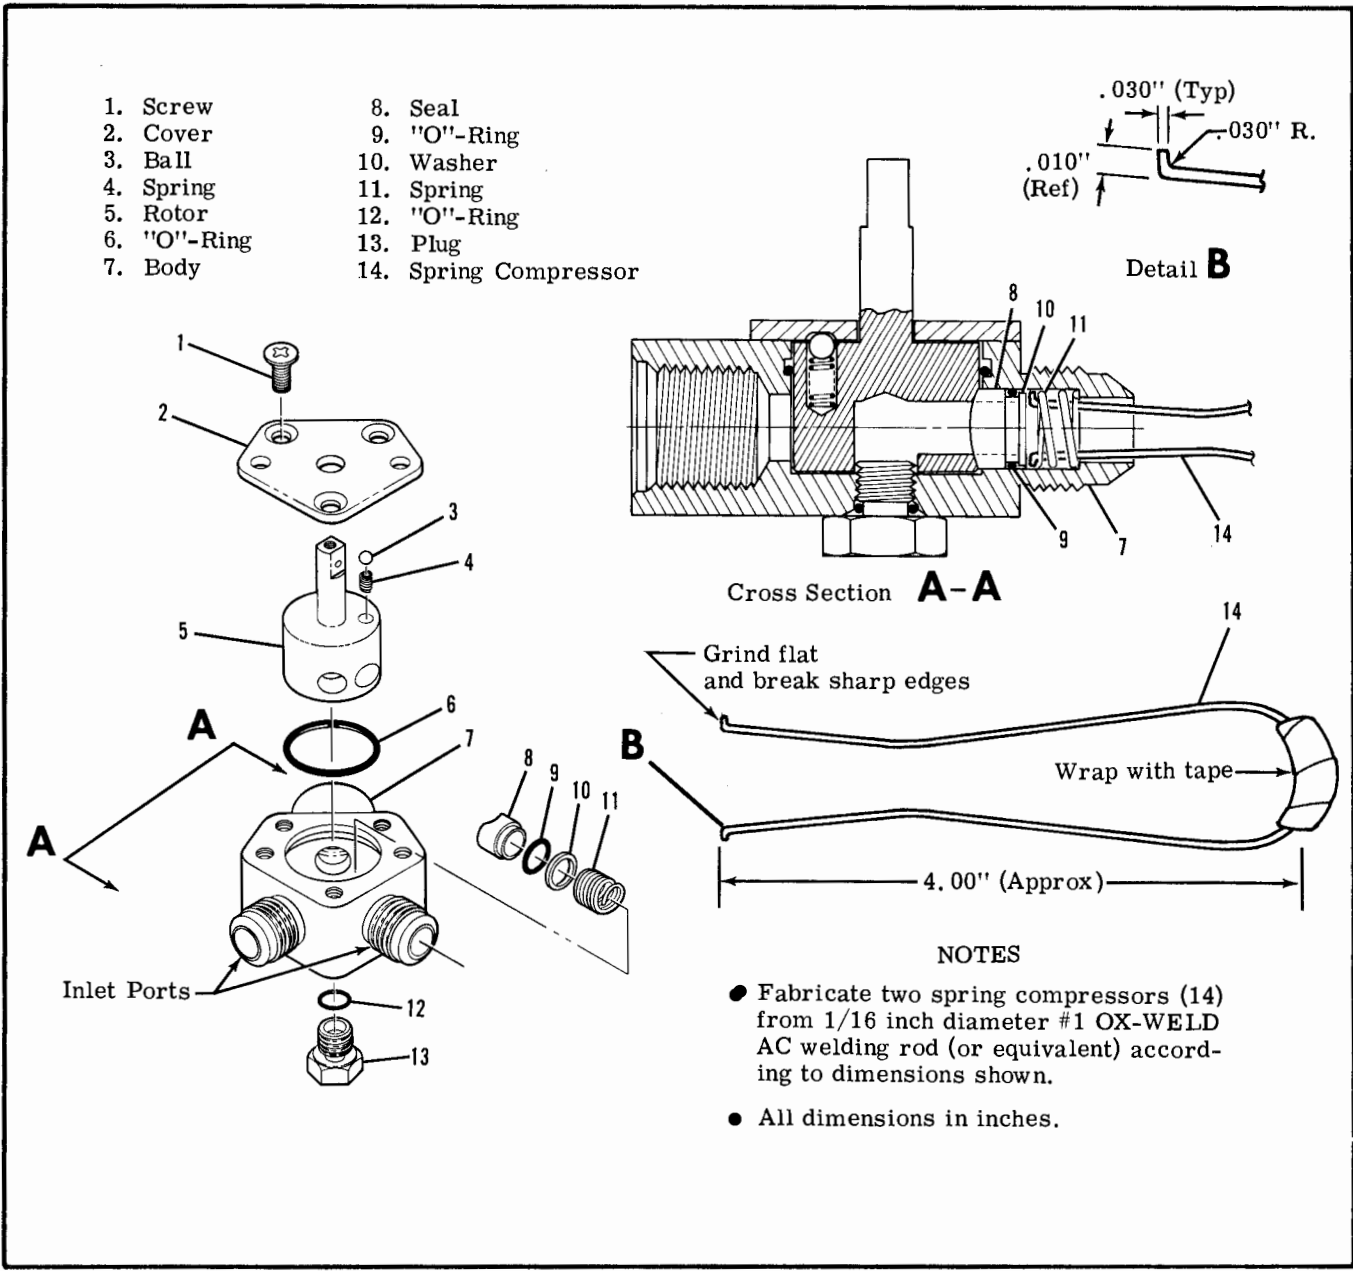

Figure 12-5. Fuel Selector Valve and Spring Compressor
REFER TO FIGURE 12-5
12-12. FUEL SELECTOR VALVE. (Refer to figure 12-5.)
12-15. DISASSEMBLY. (Refer to figure 12-5)
12-16. REASSEMBLY. (Refer to figure 12-5)
- Reassembly of selector valve is facilitated by mounting in a bench vise or equivalent bench support, ensuring valve body (7) is protected from damage.
- Fabrication of spring compressor (14) (2 required) is recommended before reassembly.
- Always replace "O"-rings (6 and 9) anytime rotor (5) is removed from body.
- b. Insert springs (11) into inlet ports.
- c. Insert new "O"-ring (6) into recess at top of valve body (7).
- d. With spring compressors (14) in place as shown in section A-A of figure 12-5, compress springs (11) and install washers (10), new "O"-rings (9), seals (8) into inlet ports.
- d. Holding springs compressed, carefully insert rotor (5) into valve body (7). Release spring compressors and check for proper seating of seals to rotor.
- e. Lubricate spring (4) and ball (3) with lubricant conforming to Military Specification VV-P-236 (USP Petrolatum or equivalent), inserting spring into hole in top of rotor.
- f. Place ball on spring and turn rotor as required to index one of the detent holes in cover (2).
- g. Attach cover (2) and test rotation of rotor shaft for ease of operation and positive detent engagement.
- h. Replace plug (13) using new "O"-ring (12).